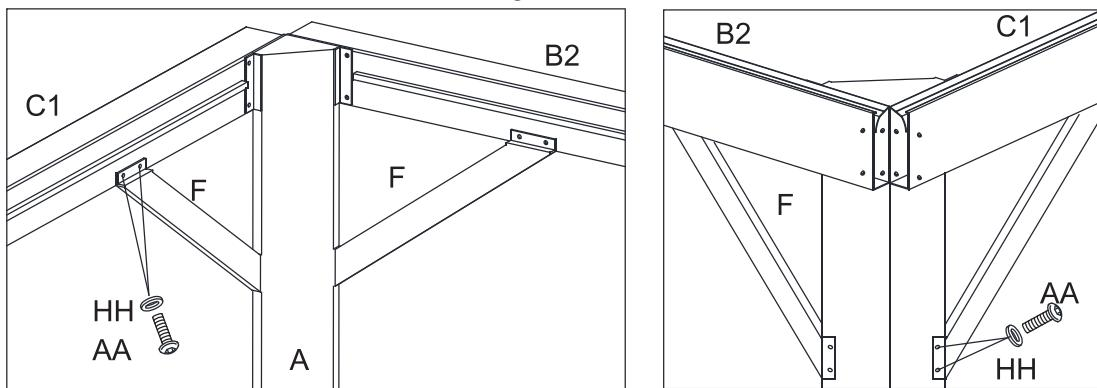

Figure 5.2
- 5.2. Attach Support Bars (F) to the Corner Post (A) and the Lintels (C1/C2) with Bolts (AA) and washer (HH). See Figure 5.2.